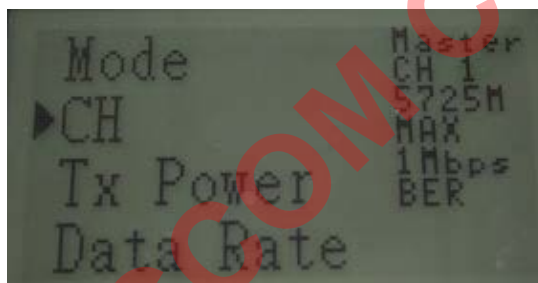

Fig.3
1. Press '↓' or '↑' button to move indicator to 'CH' as shown in Fig.3.